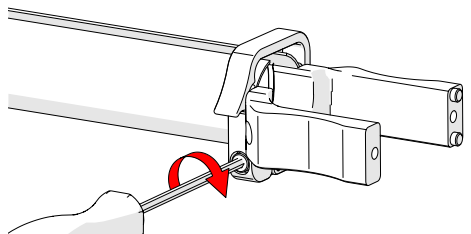

Fig. 145 - Tighten clamp screw
3. Tighten the clamp screw (Fig. 145).